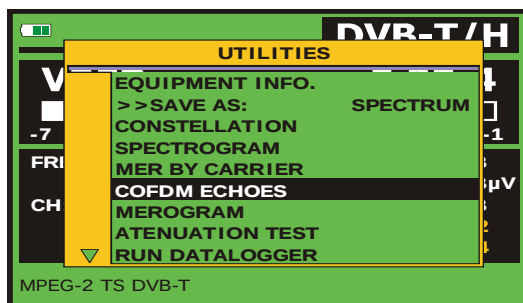

Figure 54.- UTILITIES Menu.
2. Select the option **COFDM ECHOES** (Figure 54.-).